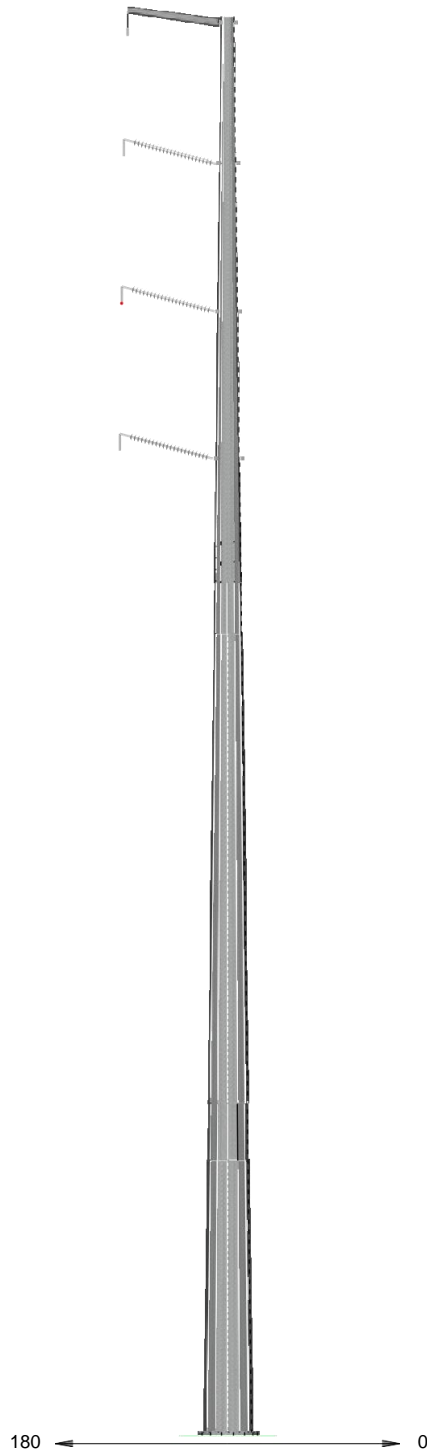

FIGURE G-6
- Figure G-6: Single-Circuit 230 kV Single-Pole, Tangent, Delta Configuration with Horizontal Post Insulator